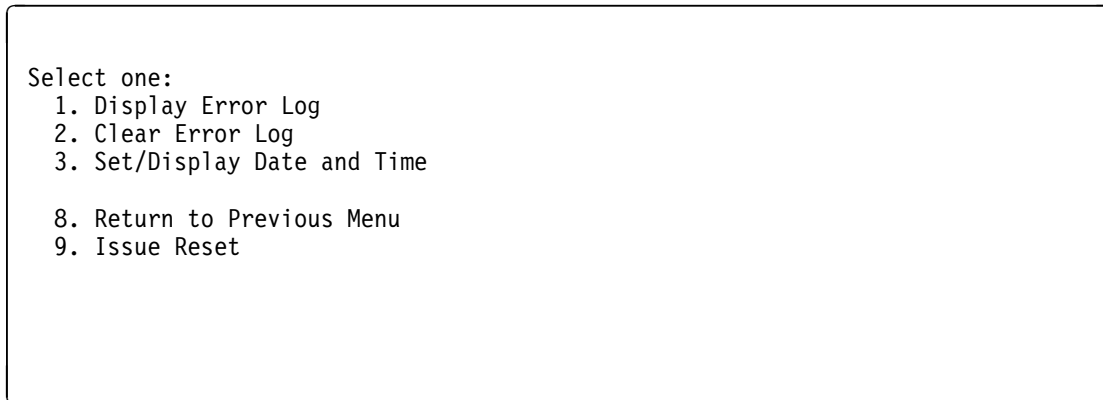

Figure 4-2. Bootstrap Utilities Selection Panel
2. A menu listing the available utilities is displayed (see Figure 4-2).